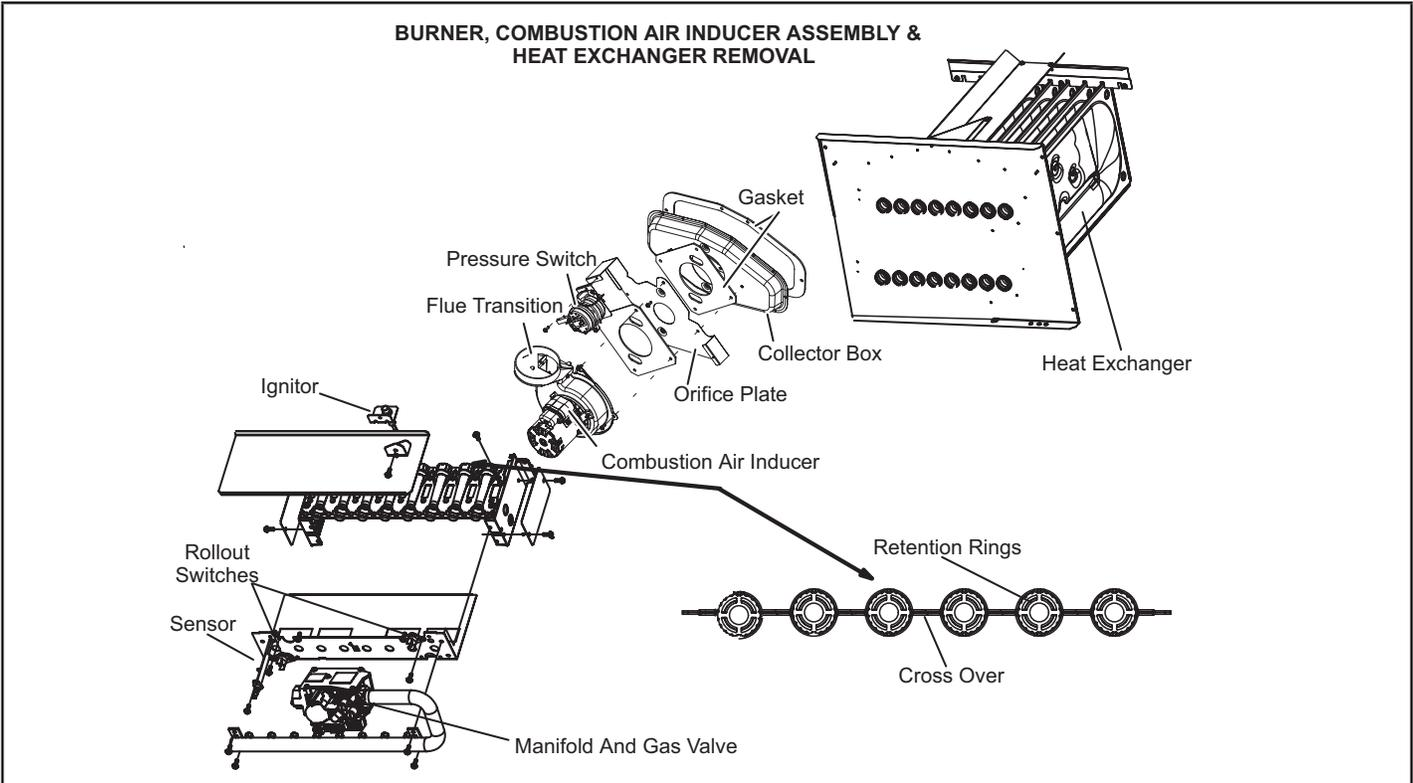

FIGURE 24
- 12 - To clean burners, run a vacuum cleaner with a soft brush attachment over the face of burners. Visually inspect inside the burners and crossovers for any blockage caused by foreign matter. Remove any blockage. FIGURE 24 shows burner detail.